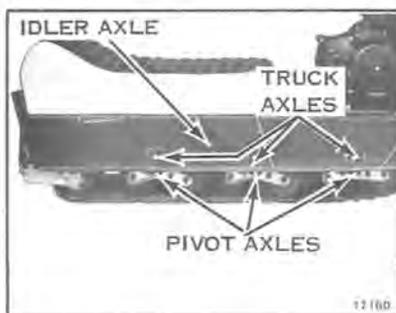

Figure 11-6
3. Remove pivot axle bolts and truck axle bolts. See Figure 11-6. Truck assemblies are now free of chassis.
12. Remove idler assembly. Remove nut and washer from each end of axle as in Step 3. See Figure 11-6.